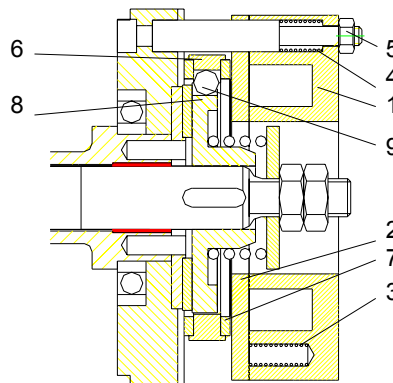

figure 26.2: Construction of the brake version 2-9.1
**for version 2-9.1** (see figure 26.2)